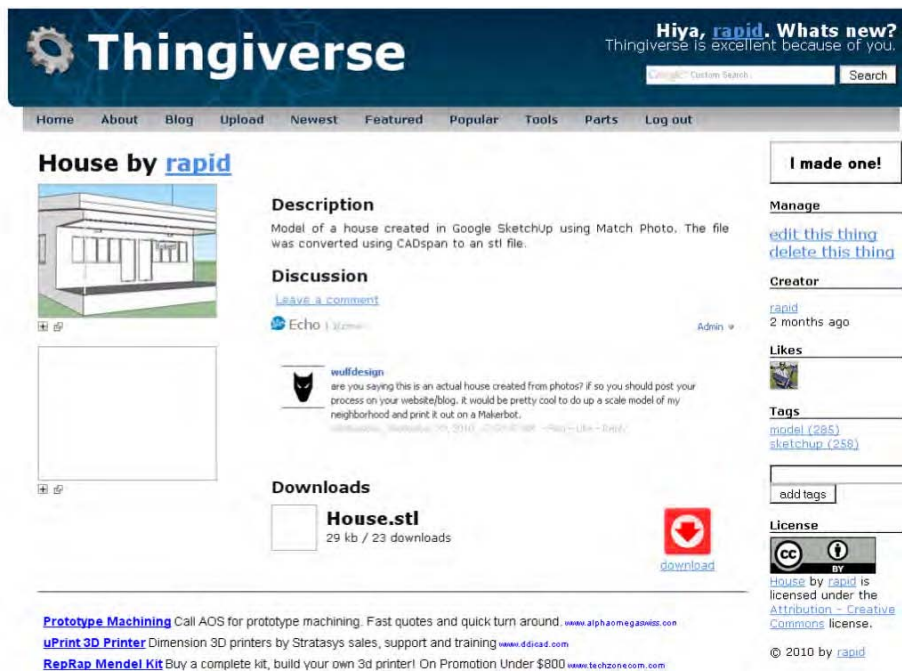

Figure 9–35. Thingiverse upload profile page
8. After you are all done, click Back to Thing. Now your model is ready to be shared with the rest of the world, as shown in Figure 9–35.